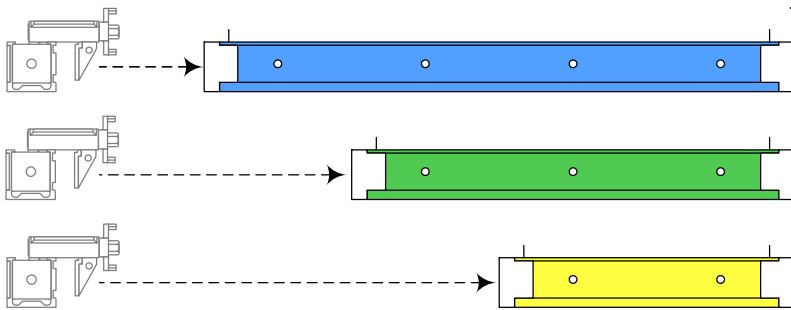

Figure 2. STD. Clamp 4" Filler / Extension To Increase Wall or Column Dimension
- Attach 4" corner extension with STD. Clamps or Filler Clamps to overlapping panel side to increase wall or column size. (See Figure 2.)